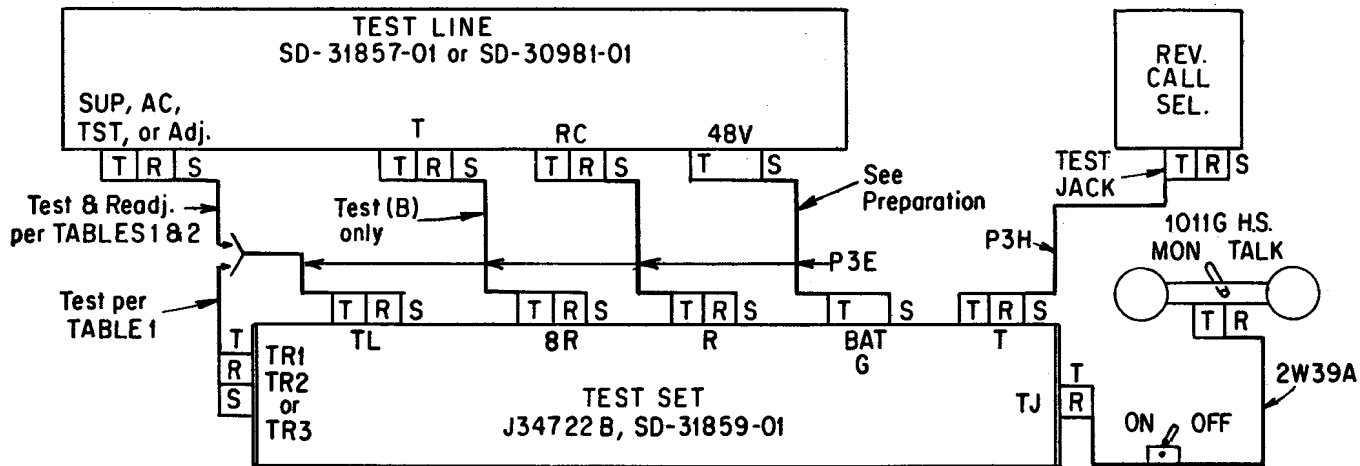

Fig.1
1.06 When testing reverting call selectors which have a 60- to 75-volt silent interval tripping battery and for which ac requirements are specified, any ring-trip relay which fails on test shall be readjusted to meet the requirements in Section 040-236-701 and the readjust ringing current values provided by the test line. These values are obtained by connecting the TL jack of the test set to the AC jack of the test line as shown in Fig. 1 and Table 1.
1	Connect the dial hand test set and the test line to the test set as shown in Fig. 1 as required by Table 1 or Table 2.